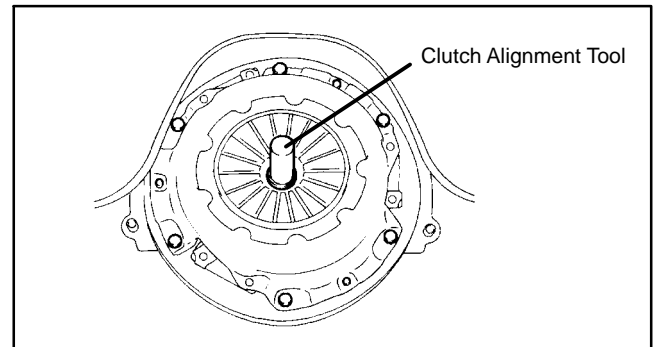
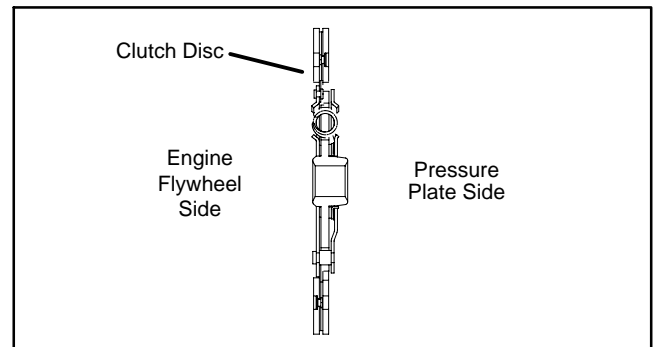

Figure 20
Figure 21
1. Insert clutch alignment tool (see Special Tools) in engine flywheel pilot bearing hole to keep clutch disk from falling off (Fig. 20).
2. Loosen pressure plate cap screws (item 10) in a diagonal sequence.
3. Remove cap screws, lock washers (item 11) and pressure plate (item 12), then slide out the alignment tool and remove clutch disk (item 13). Note orientation of clutch disk as it is removed (Fig. 21).